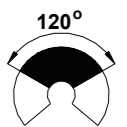

Fig.3
- With a fixed angle coverage of 120°. (See fig.3)